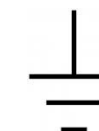

Figure 1: Grounding wire
- If you use an outdoor camera, the server must connect permanently to the ground wire. Ensure that you use an 18 AWG wire or larger to make the connection, and that you label the grounding screw near the power connector with the image in Figure 1.